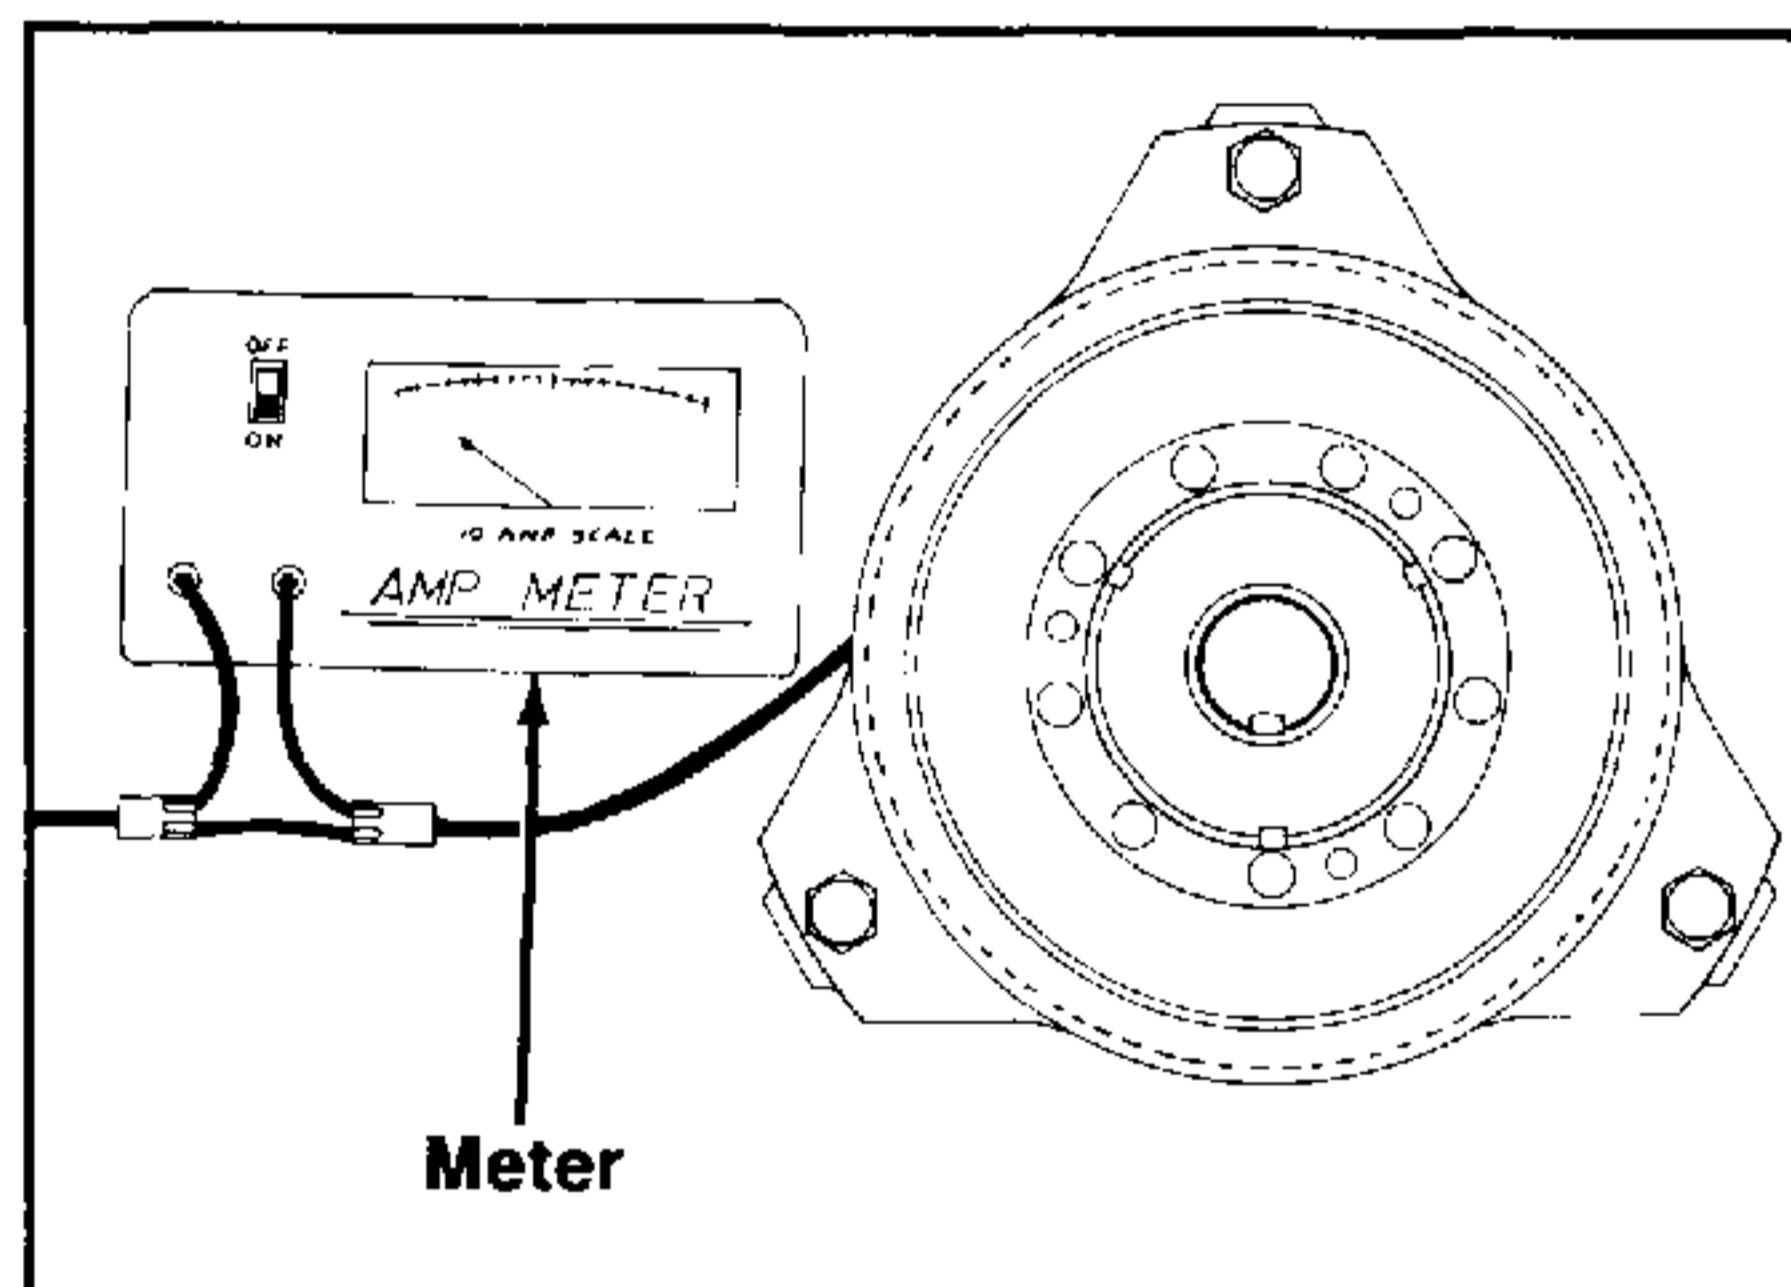

FIGURE 2.
4. Connect one meter lead wire to one wire in clutch connector (see figure 2).
5. Connect the other meter lead wire to the corresponding wire in the mating connector (see figure 2).
6. Connect a short wire to the 2nd wire in both connectors (see figure 2).